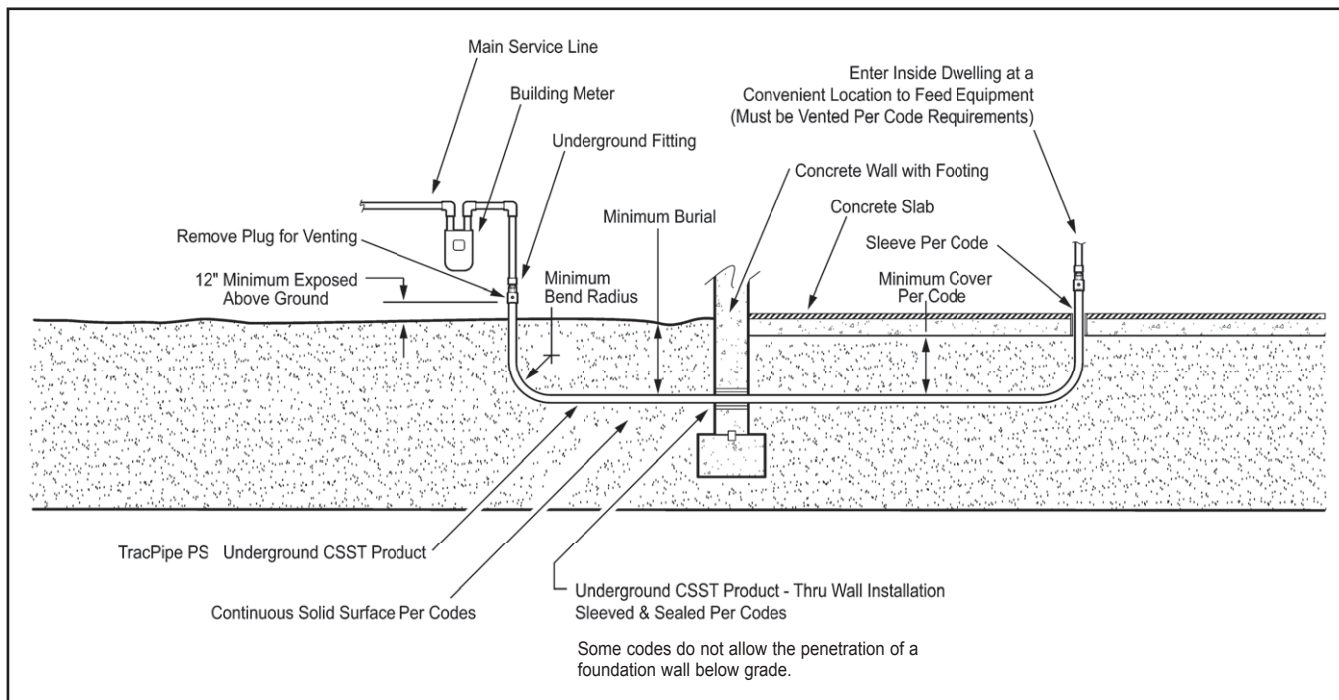

Figure: 4-44
1. Lay TracPipe® PS-II in a trench. Install the gas piping with a substantially continuous bearing on the bottom of the trench, to the appropriate burial depth as defined in Table: 4-8 and shown in Figure: 4-44.